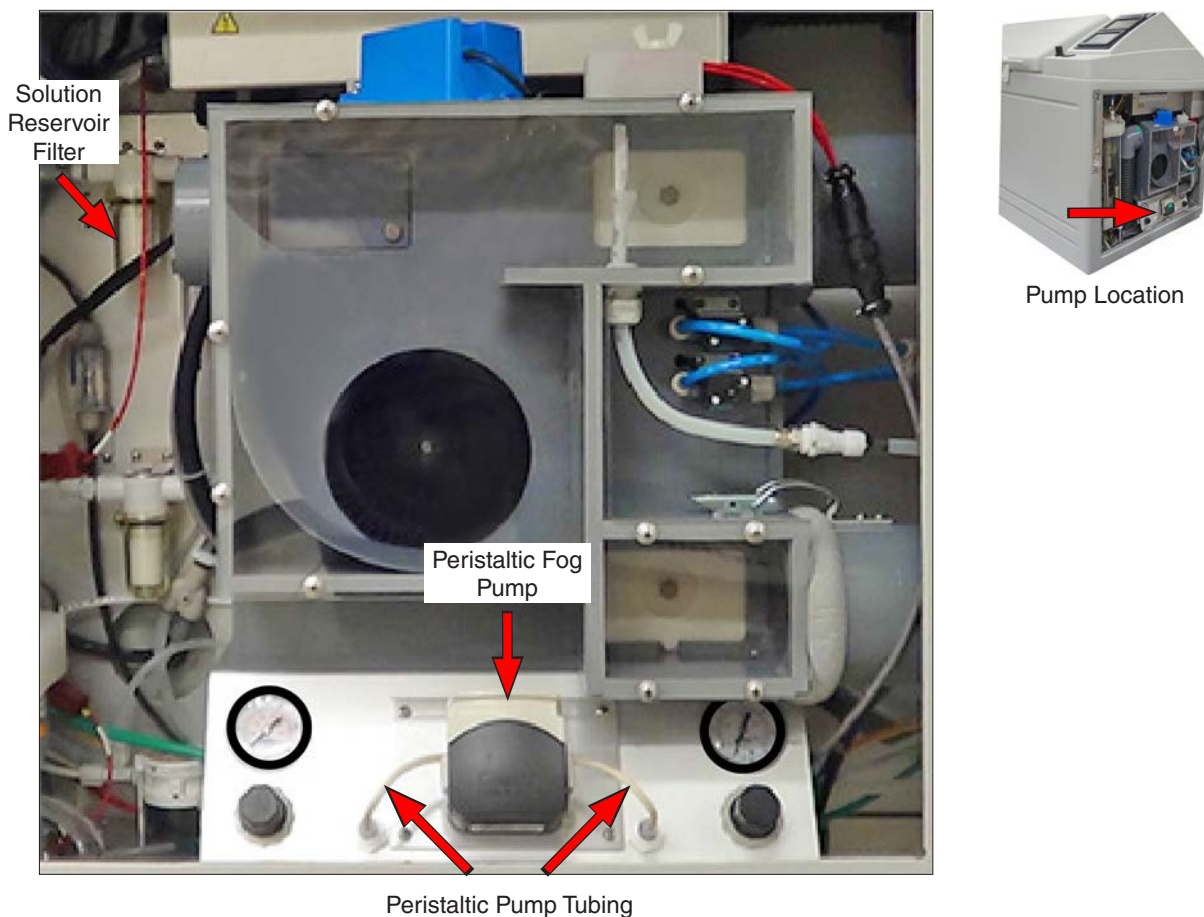

Figure 8.5: Peristaltic pump location.
- The peristaltic pump is accessed by removing the Q-FOG right-side access panel (Figure 8.5).